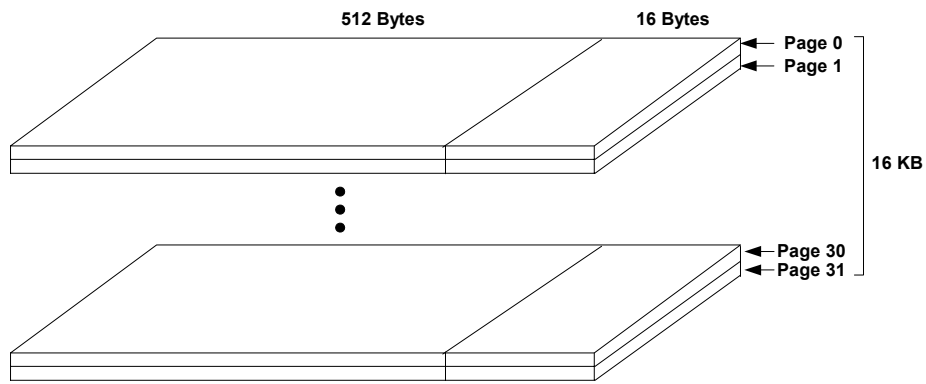

Figure 6: Block Structure
- **Block** – Each block contains 32 pages (total of 16KB), as shown in Figure 6. A block is the minimal unit that can be erased, and is sometimes referred to as an erase block.